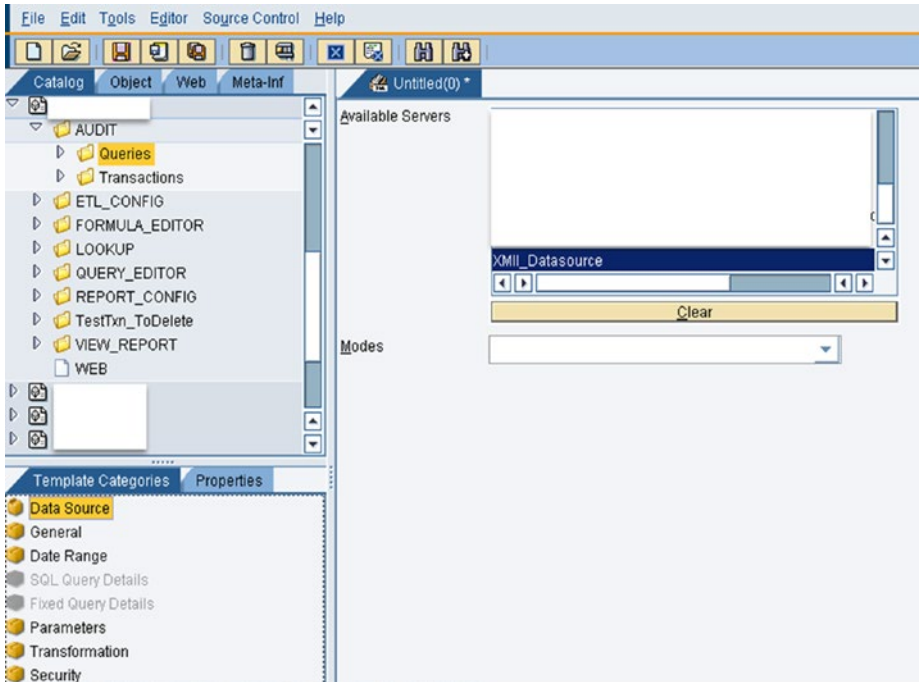

Figure 6-3. Choosing a SQL data server
2. Select a server from the list of available servers. This list is generated from the data servers configured in the SAP MII Admin menu. See Figure 6-3.